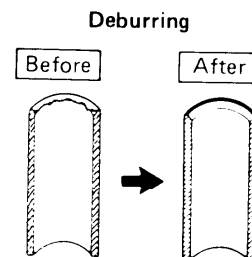

Fig. 20
- Remove burrs at the end of the copper tube with a reamer or a file. This process is important and should be done carefully to make a good flare. Fig. 20